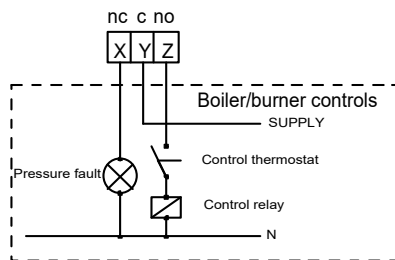

Fig 1.7 Typical Enhanced -E controller Wiring Diagram
- 1.3.6.5 For Enhanced controller units: Make any BMS connections required to terminals A-Z on Interface pcb card inside control panel. Connect boiler/chiller terminals nos. X,Y,Z on interface card in series with the boiler/chiller control circuits so that in the event of a fault condition occurring the boiler/chillers shut down and remain inoperative until the fault condition is rectified. (See fig 1.7). Boiler relay is energised for normal condition and releases to a high or low-pressure alarm fault condition.
Flashing display giving type of fault and a various volt free output signals on BMS enhanced models. (see wiring diagram provided with unit to see which volt free signal relays are present. Typical example shown in fig. 1.7).